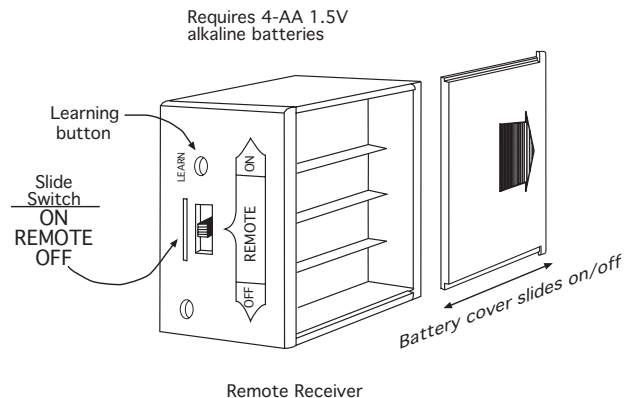

FIG. 11 Remote Receiver
First, install (4) AA-size 1.5 **ALKALINE** batteries in the remote receiver (Fig 11). For best performance, remote receiver batteries should be factory fresh when installed. The system operates best when battery output is greater than 5.3 volts. Four (4) new AA batteries should provide an output voltage of 6.0 to 6.2 volts. **Be sure batteries are installed with the (+) and (-) ends facing the correct direction.**